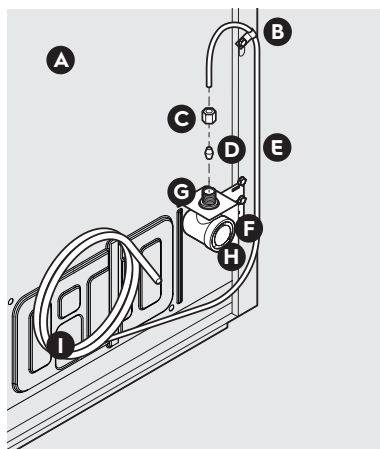
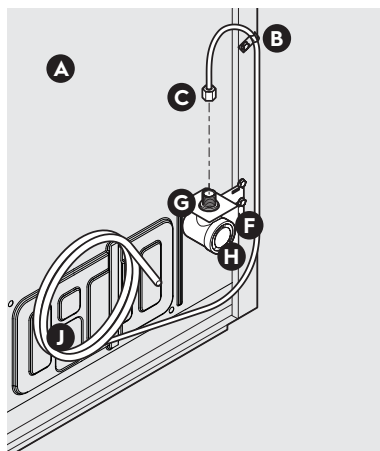

Figure 1
Figure 2
4. If you use **copper tubing** - Slide the brass compression nut, and then the ferrule (sleeve) onto the water supply line. Push the water supply line into the water valve inlet as far as it will go ( $\frac{1}{4}$ "/6.4 mm). Slide the ferrule (sleeve) into the valve inlet and finger tighten the compression nut onto the valve. Tighten another half turn with a wrench; DO NOT overtighten. See Figure 1.
If you use **braided flexible stainless steel tubing** - The nut is already assembled on the tubing. Slide the nut onto the valve inlet and finger tighten the nut onto valve. Tighten another half turn with a wrench; DO NOT overtighten. See Figure 2.
B	Steel Clamp (Fig. 1: $\frac{1}{4}$ "; Fig. 2: $\frac{1}{2}$ ")